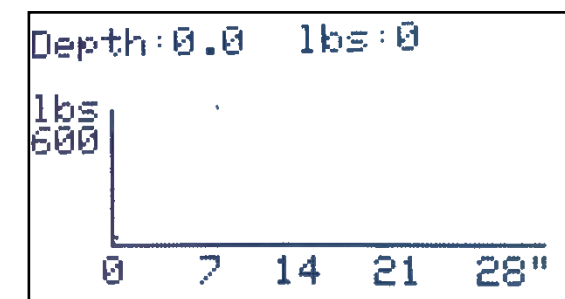

FIGURE 7
8. The screen shown in **Figure 7** will display when the CTS 1000 is ready to be used with the FarmQA Compaction phone app.